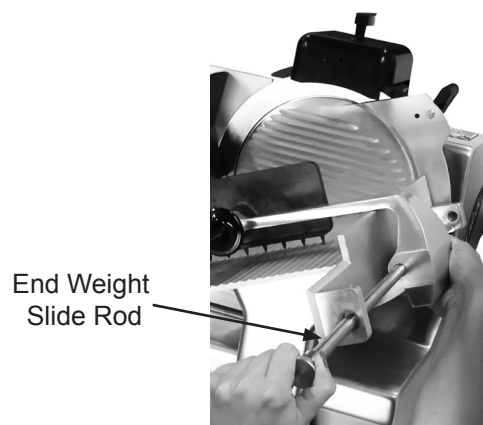

Figure 18-3
1. Apply a few drops of Globe oil to end weight slide rod (Fig. 18-3).